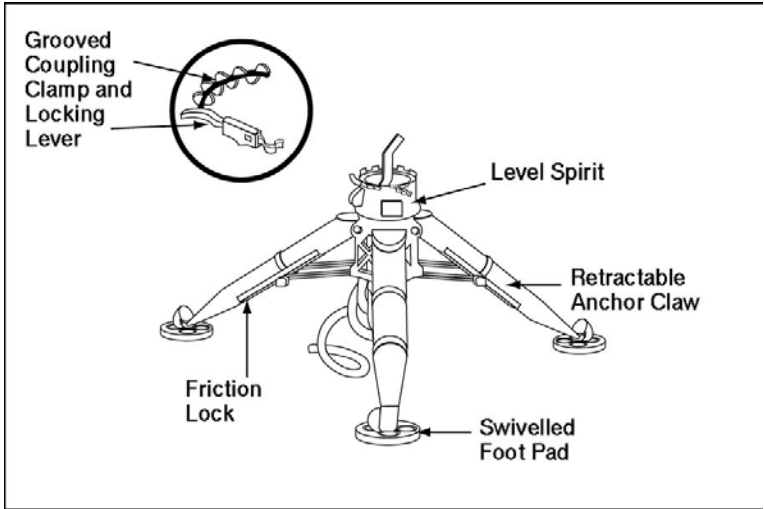

Figure 2-2-10: Tripod
26. **Tripod.** (Figure 2-2-10) The tripod provides a level and rigid ground-mounting base for the TU. The tripod has three legs that are adjustable to allow the system to be levelled on terrain slopes of up to 530 mils and to permit folding for ease of handling when the equipment is being transported. Each leg is equipped with a friction lock that locks the leg in place after it has been adjusted to the desired position. The detent stop level provides three detent stop positions for rough levelling. A horizontal level and a vertical level mounted 1600 mils apart on the tripod permit the system to be levelled. Each leg has a footpad, which can swivel and a retractable anchor claw. In soft ground, the claw may be driven into the soil for additional stability of the system. Each footpad has a hole that permits the unit to be staked down on sandy or soft terrain slopes. The TU is mounted in the cylindrical opening at the top of the tripod body and secured in place by a grooved coupling clamp and locking lever.